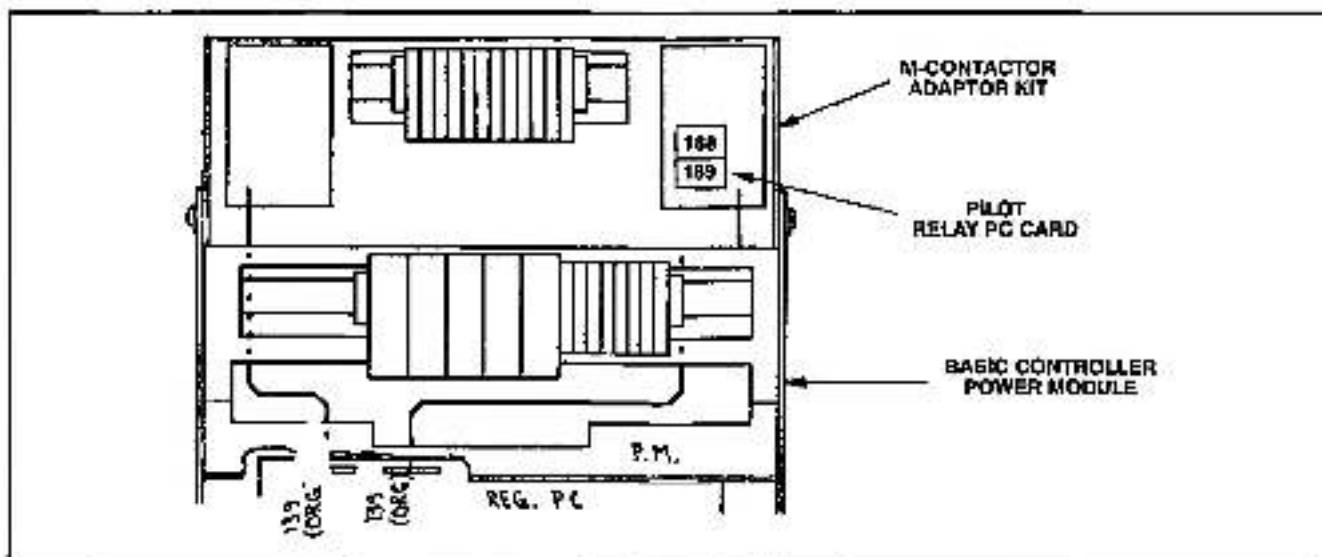

Figure 1 - M-Contactor Adapter Kit Mounted To Basic Controller
1. Orient the Auxiliary Mounting Bracket (Refer to Figure 1) over the Basic Controller aligning the mounting holes. Secure the Bracket with the provided washers and screws. Make sure the washer teeth are firmly embedded in the Chassis to provide proper ground.
2. Connect user supplied 115VAC, 3 amp max. power to 188-189 on pilot relay PC. Now connect the orange lead (139) from the pilot relay harness to the controller regulator printed circuit card (refer to Figure 1.)